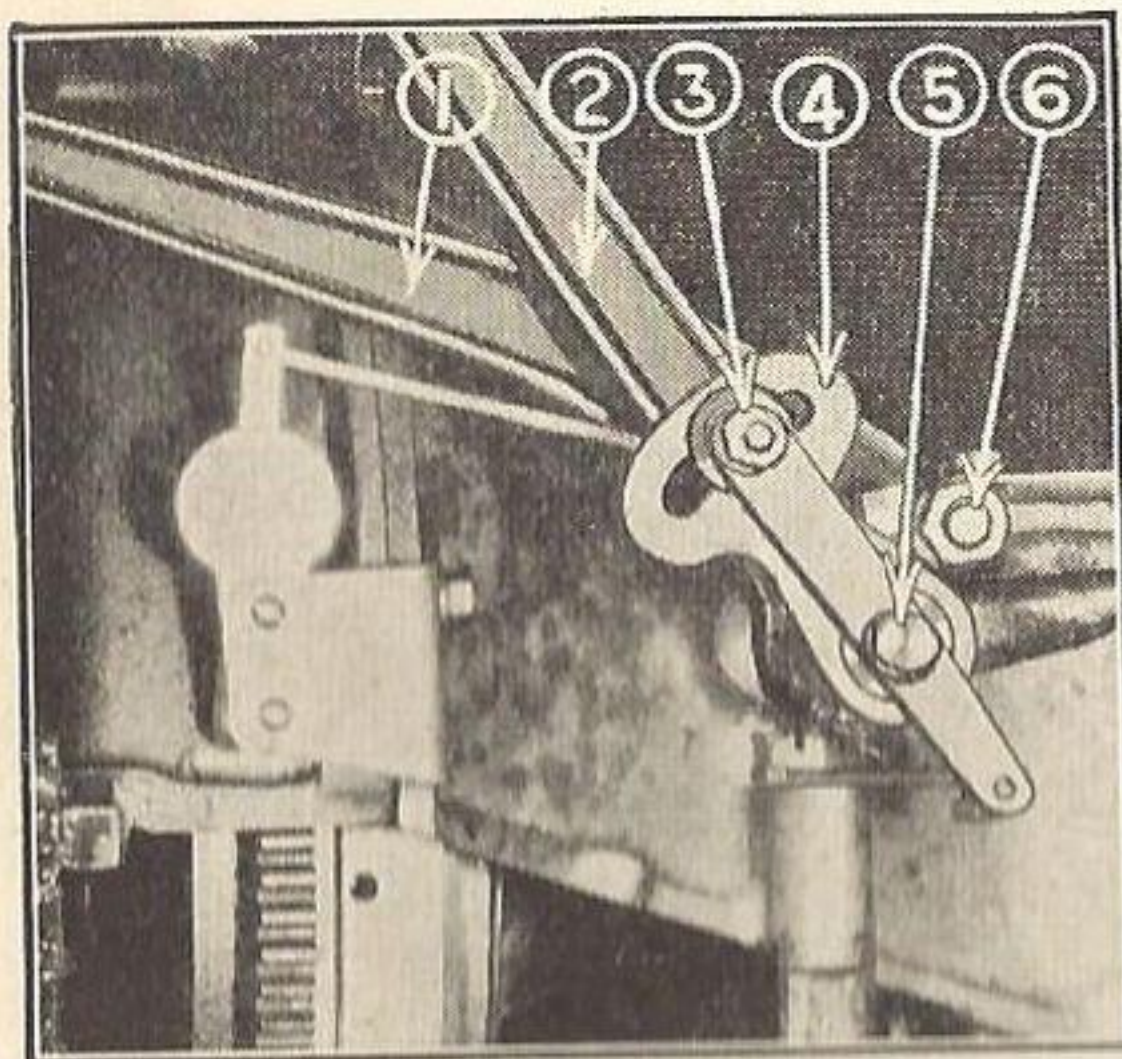

Fig. 33
5. Loosen pedal hub adjusting bolt No. 3, Fig. 33 and drop clutch pedal down to the limit of the slot through which the adjusting bolt passes.